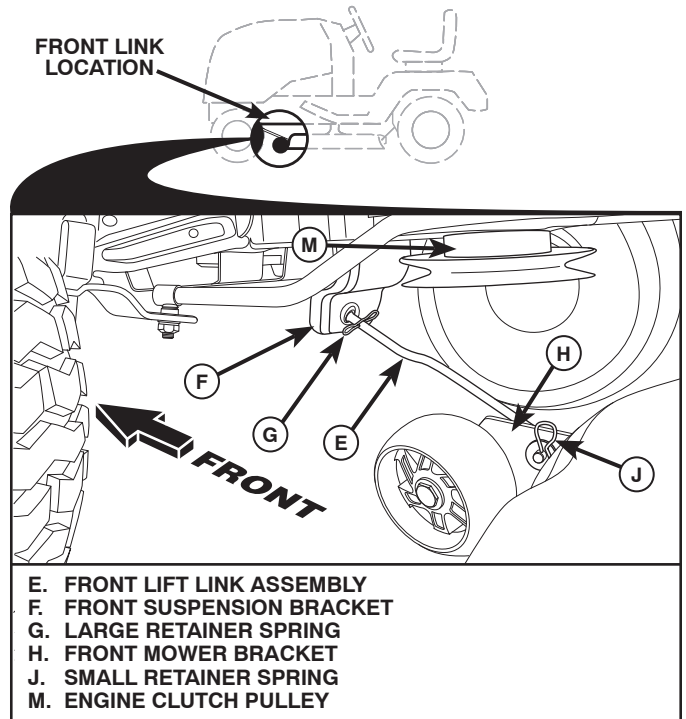

Fig. 31
8. ATTACH FRONT LINK (E) (See Fig. 31)
- From front of tractor, insert rod end of front link (E) through front hole in tractor front suspension bracket (F).
- Move to left side of mower and insert large retainer spring (G) through hole in front link (E) behind front suspension bracket (F).
- Insert other end of link (E) into hole in front mower bracket (H) and secure with washer and small retainer spring (J).
9. INSTALL BELT ON ENGINE CLUTCH PULLEY (M) (See Fig. 31 & 32)
- Disengage belt tension rod (K) from locking bracket (L).
- Install belt onto engine clutch pulley (M).